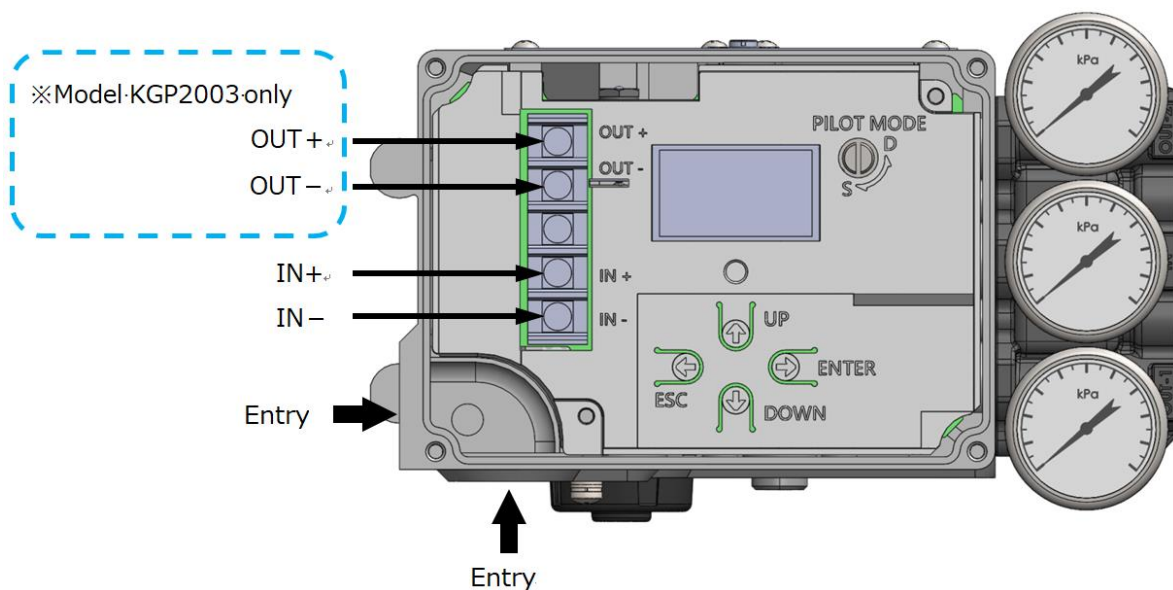

Figure 2.6a Entries and Connection facilities
5. As shown in Figure 2.6a and b, there are connection facilities inside and outside the instrument. Make wiring connections according to the installation environment and applicable laws and regulations.